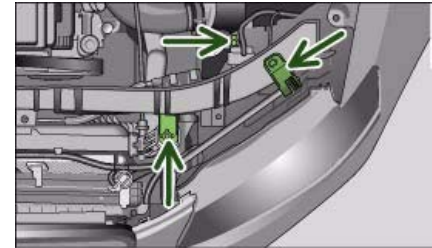

Fig. 247 Headlight unit: Attachment points are marked by arrows
- Slacken the two screws that secure the headlight to the lock carrier and the screw at the underside of the headlight (this screw is located between the cover and the rubber cap and should not be slackened more than ten turns) ⇒ *fig. 247*.